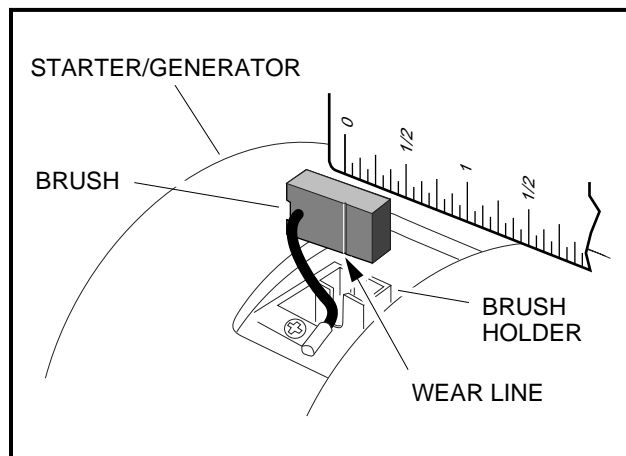

Figure 12-5 Inspect Brushes
2. Check the wear line on the side of the brush. If the end of the brush is within 1/16 of an inch (1.6 mm) of the wear line, replace all four brushes (**Figure 12-5, Page 12-4**).